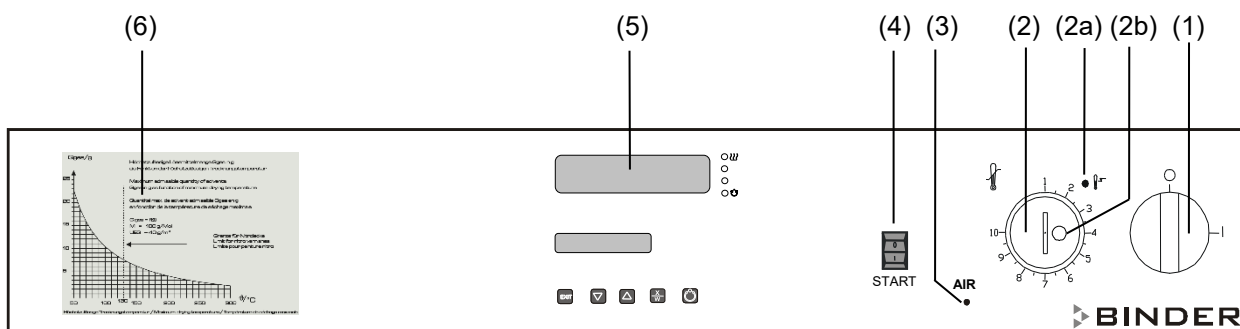

Figure 4: Control panel of FDL 115 standard chamber
A flow monitor in the upper part of the device (pressure differential switch) monitors the stream of exhaust air. In the event of failure, the monitoring system turns the heater off immediately and shows this status with a visual signal: red indicator light “AIR” (3) (see Figure 4).